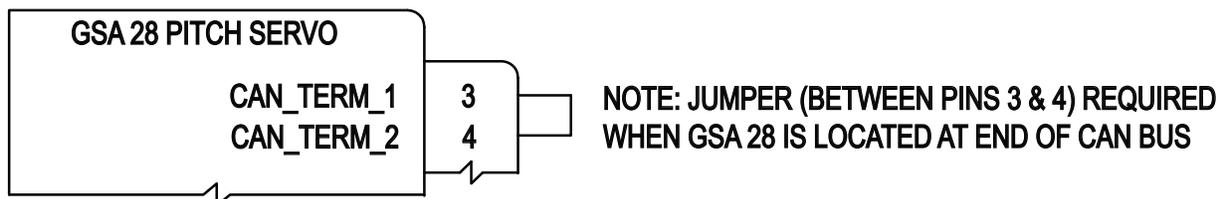

Figure 2-12 CAN Bus Termination for GSA 28
- The GMC 507, GSA 28, GTR 20/200, GTR 205X and GTR 205XR contain a 120 Ω resistor inside the unit that provides termination when the two CAN TERM pins are connected together (Figure 2-12 and Figure 2-13).